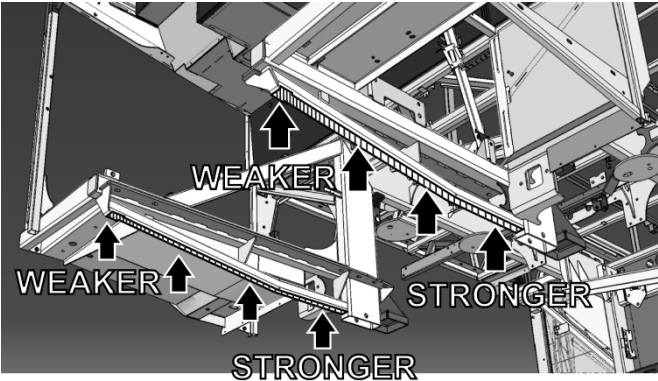

FIGURE 53: UNAPPROVED LIFTING POINTS FOR REAR END TOWING – SIDE MEMBERS LOCATED UNDER THE ENGINE CRADLE SUPPORT RAILS
In an emergency or if the vehicle has to be moved over a short distance, the side members may be used as lifting point. Try to lift from the strongest location along the side members which is near the rear sub-frame vertical member (Figure 53).
***Lifting from the engine cradle is the least preferred option and should be done only if lifting from under the side members shown on Figure 53 cannot be achieved***